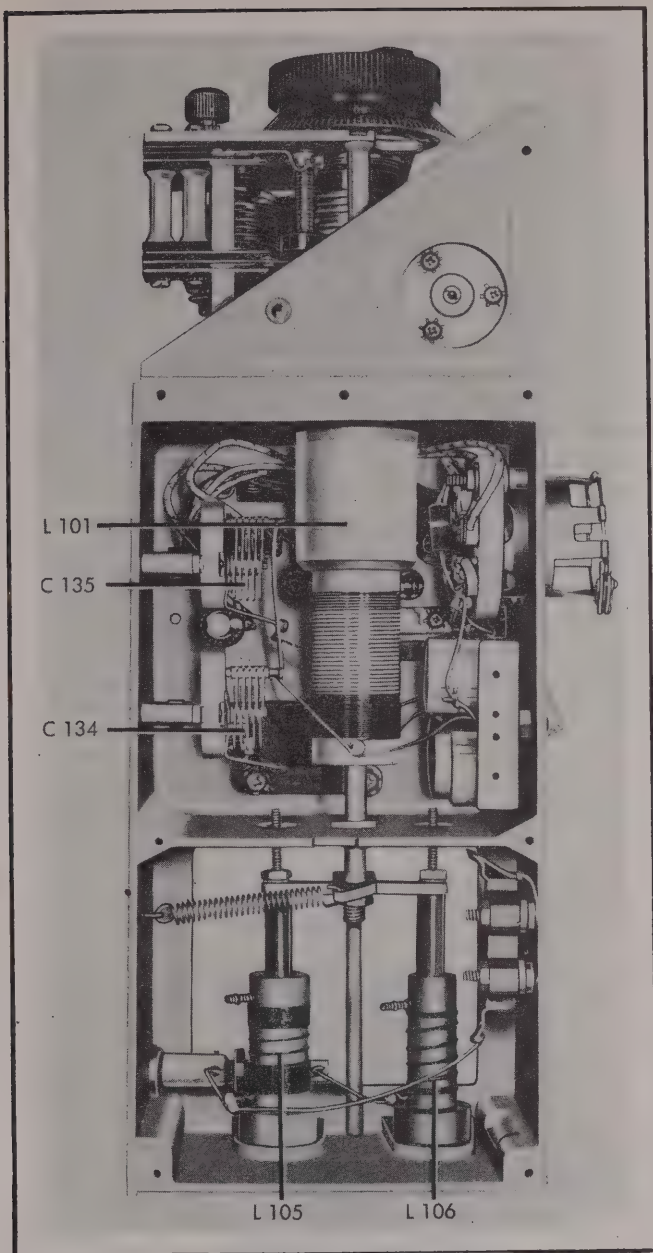

Figure 5-8. High Frequency Oscillator
(o) Adjust trimming capacitor C134 (fig. 5-8) until zero beat is obtained between the output of the H-F oscillator and the output of the calibration oscillator.
(s) While listening to the SIDETONE output adjust trimming capacitor C135 (fig. 5-8) until zero beat between the high-frequency oscillator output and the calibration oscillator output is obtained.
(4) When the autotune cycle has been completed, operate Control "A" to position 2.
(5) Set the indicator mark over Control "B" to midscale, using the CORRECTOR knob.
(6) Refer to table 6-10 and obtain the dial setting for an output frequency of 2400 Kc with Control "A" in position 2. (Oscillator output on 1200 Kc.)
(7) Rotate Control "B" to the setting obtained from the table.
(8) Loosen the nut on the rear of the lead screw that holds the multiplier tuning slug yoke to the screw.
(9) Operate power level switch S106 to the CALIBRATE position.
(10) Measure the output frequency of the oscillator and adjust the position of the tuning slug in L101 until the oscillator is exactly 1200 Kc.
(11) When the correct position of the tuning slug has been found, tighten the locking nut to prevent any further displacement of the slug.
(12) Refer to table 6-10 and obtain the setting of Control "B" necessary to obtain an output frequency of 3000 Kc with Control "A" in position 2. (Oscillator output on 1500 Kc.)
(13) Rotate Control "B" to the setting obtained from the table.
(14) Measure the output frequency of the oscillator and adjust capacitor trimmer C134 (fig. 5-8) until the frequency of the oscillator output is exactly 1500 Kc.
(16) Check several points within the band by obtaining dial settings from the calibration tables, rotating
(16) If the dial setting of Control "B" necessary to obtain output on a selected frequency, deviates more than 4 or 5 dial divisions from the dial setting given in the calibration tables, repeat steps (6) through (15) until the actual dial setting of Control "B" necessary to obtain a given output frequency, corresponds very closely to the setting given in the table.
(17) When alignment has been completed with Control "A" in position 2, operate the control to position 1.
(18) Refer to table 6-10 and obtain the dial setting of Control "B" to obtain an output frequency of 2000 Kc with Control "A" in position 1. (Oscillator output on 1000 Kc.)
(19) Adjust trimming capacitor C135 (fig. 5-8) until the oscillator output frequency is exactly 1000 Kc.